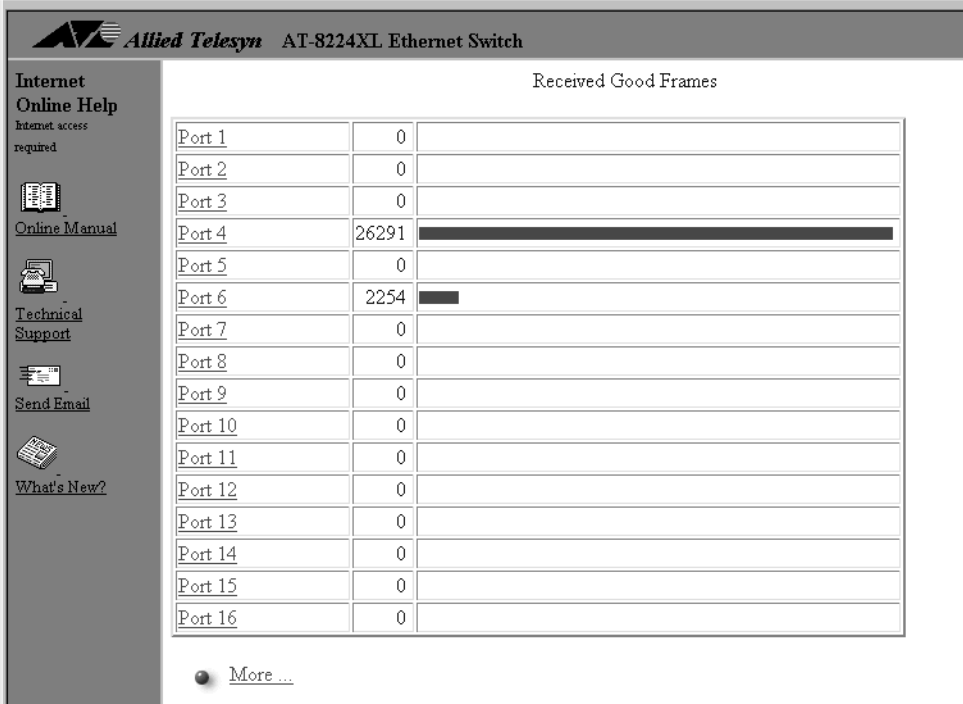

Figure 66 Sample Graph of a Single Frame Type on All Ports
- b. Select a frame type from the Receive Frames window. The statistics for the selected frame type for all of the ports is displayed. A example is shown in Figure 66.